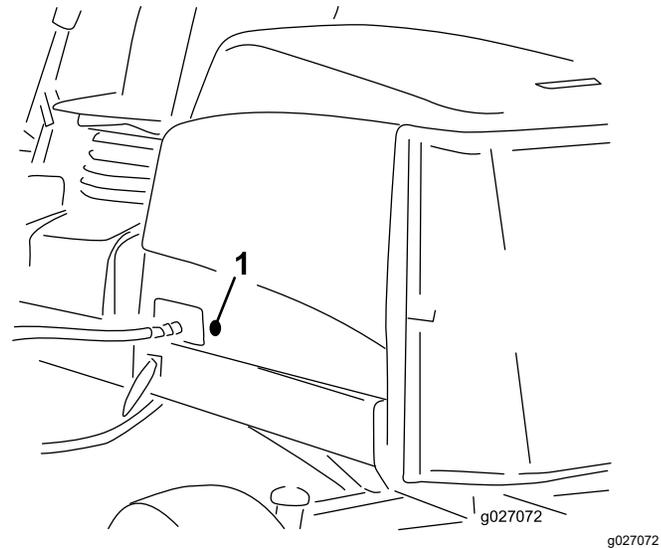

Figure 33
2. Remove the rubber grommet from the hole in the left side of the hood (Figure 33).